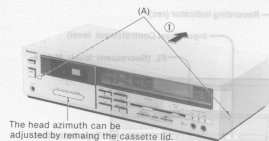

Fig. 1
3. Measure the resistance value with ohmmeter between the jumpered AC plug and each exposed metal cabinet part, such as screwheads, antenna, control shafts, handle brackets, etc. Equipment with antenna terminals should read between $3M\Omega$ and $5.2M\Omega$ to all exposed parts. (Fig. 1) Equipment without antenna terminals should read approximately infinity to all exposed parts. (Fig. 2)
(Fig. 1)